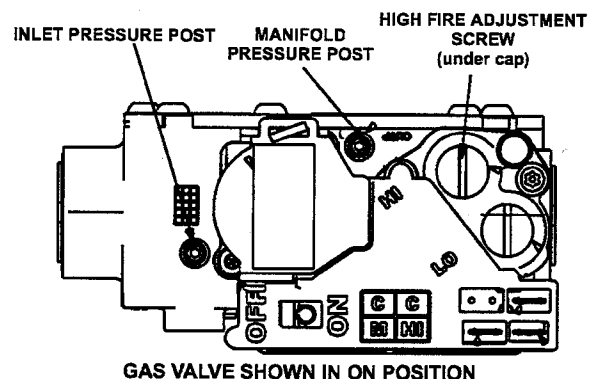

Figure 40
6. Move gas valve switch to **OFF**. See Figure 40.
8. Move gas valve switch to **ON**. See Figure 40.
1. A manifold post located on the gas valve provides access to the manifold pressure. See Figure 40. Back out the 3/32 Hex screw one turn, connect a piece of 5/16" tubing and connect to a manometer to measure manifold pressure.